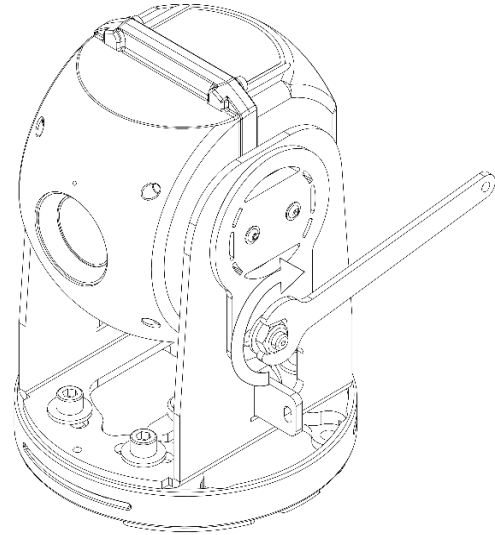

Figure 27: Tightening TILT Base Nuts
2. Lock the position by tightening the locking-nuts at both sides of the camera body. See Figure 27.